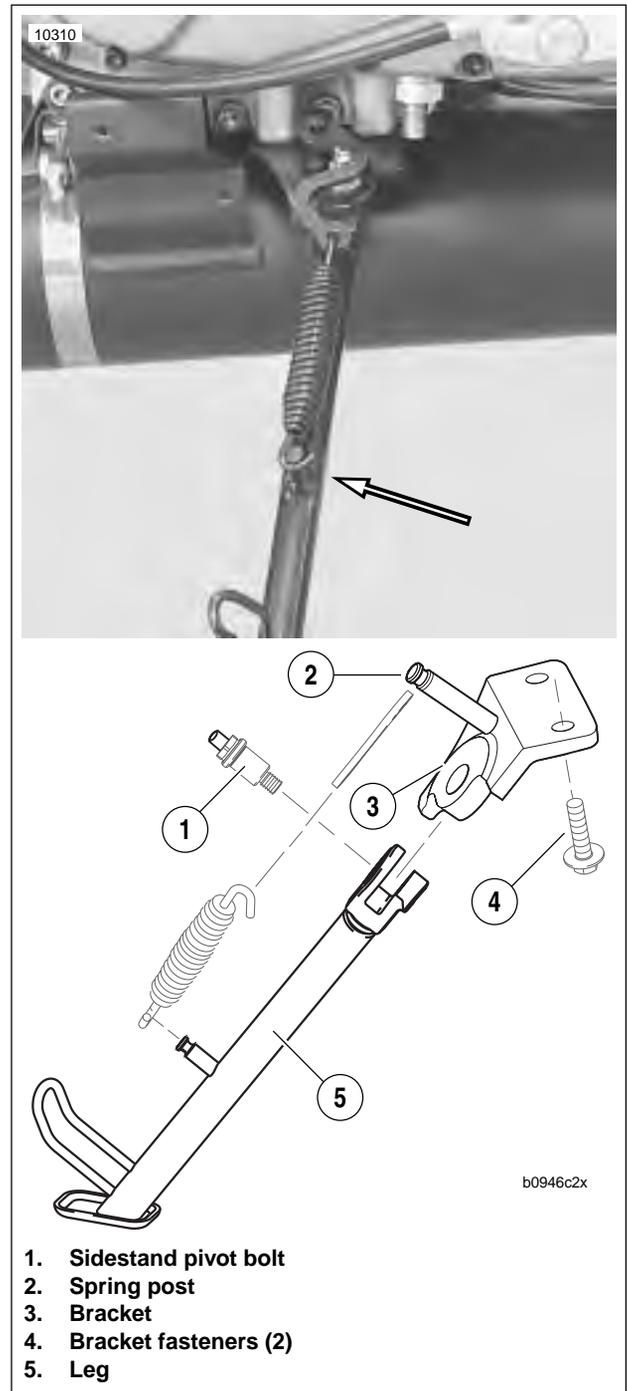

Figure 2-125. Sidestand Assembly (Extended)
2. See Figure 2-125. Remove fasteners (4) securing sidestand bracket (3) to frame.